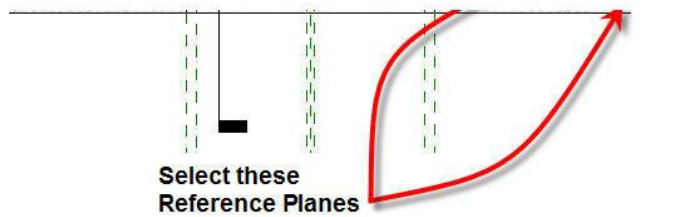

Figure 42. Establishing the wall layer wrap control points.
2. Select the Reference Planes that are attached to the exterior and interior faces of the frame as shown in Figure 42.
3. Click Element Properties from the ribbon. In the Instance Properties dialog box, click the check box next to Wall Closure as shown in Figure 42. Click OK to return to the Family Editor.